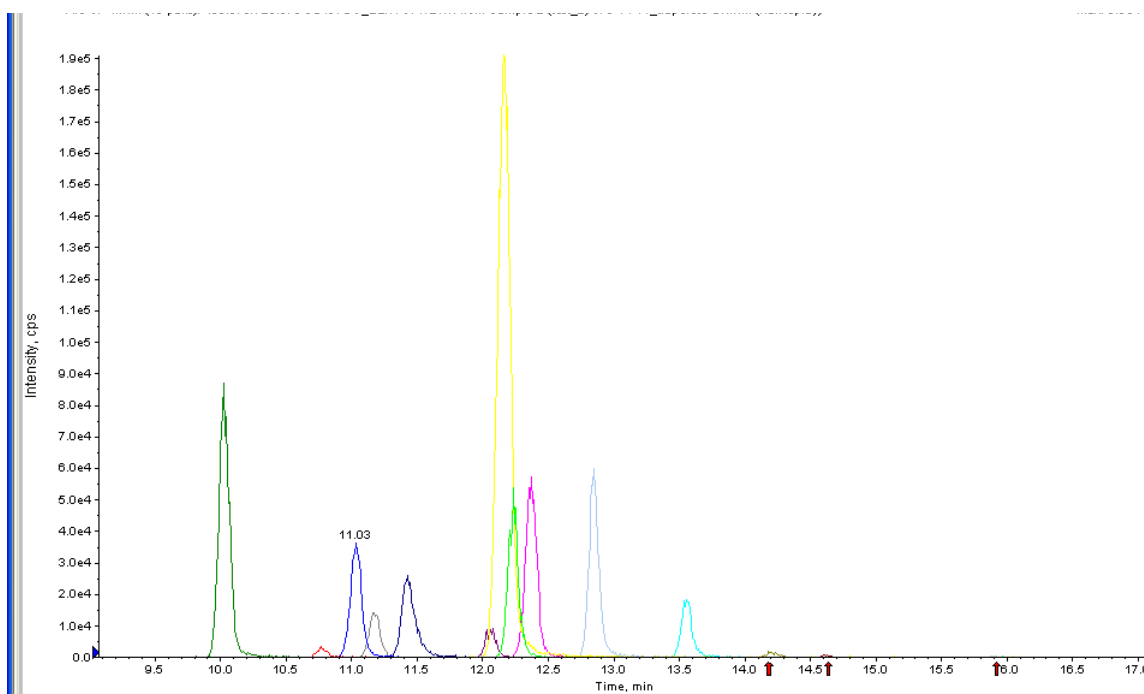

Figure 3-29 Extraction of all peaks—late eluting peaks not present
- If the late eluting peaks are not visible or are very low in intensity, this is usually a sign that the column is getting old. In rare cases, it could mean that the Beta-Galactosidase standard is degraded. See Figure 3-29 for an example of a scan with an older column.